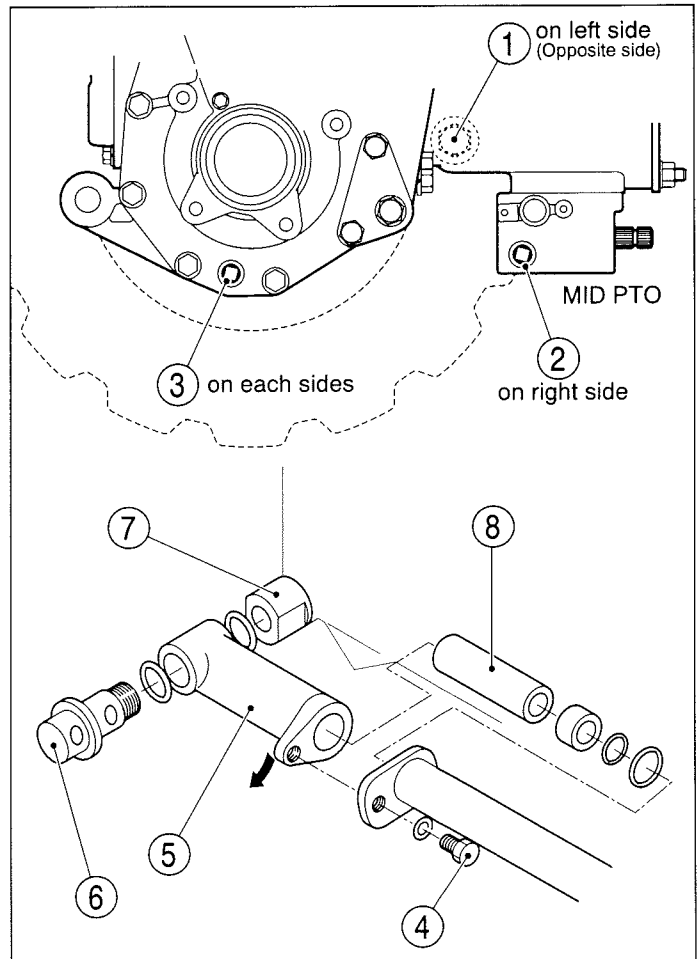

FIG. 77
FIG. 77: To Replace Transmission Oil - Remove the drain plug (1) along with second drain plug (2) below the mid PTO gearbox, and the final drive plugs (3) on each axle. Completely drain oil from the system.